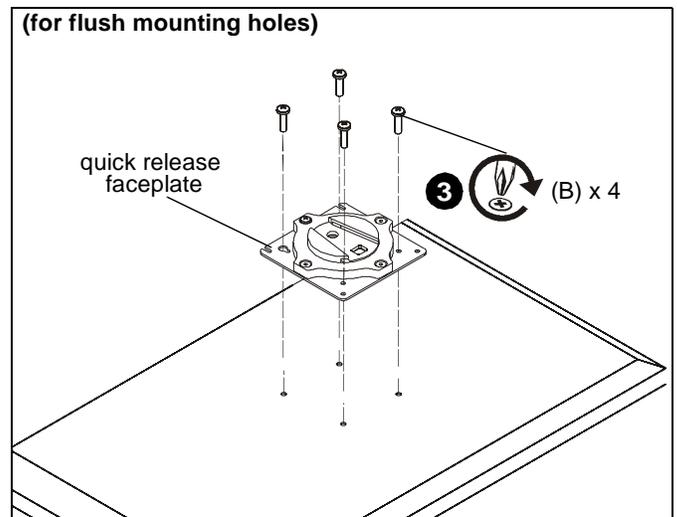

**Figure 13**
1. Remove quick release faceplate from mount by pulling quick release lever and sliding faceplate off mount. (See Figure 13)